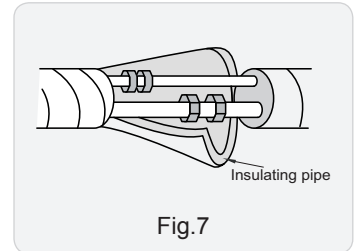

Fig.7
(5) Wrap the indoor pipe and joint of connection pipe with insulating pipe, and then wrap it with tape. (As show in Fig.7)